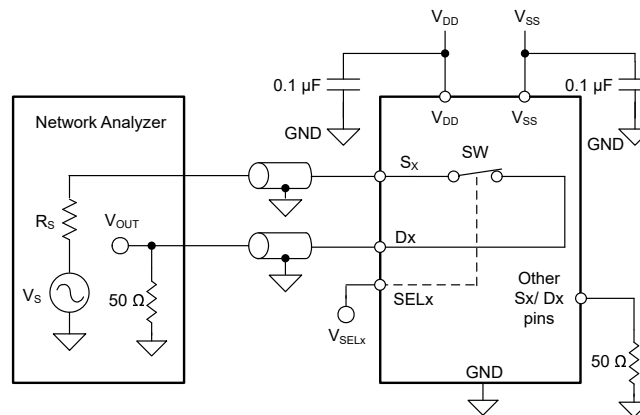

图 8-8. Bandwidth Measurement Setup
Bandwidth (BW) is defined as the range of frequencies that are attenuated by  $< 3\ \text{dB}$  when the input is applied to the source pin ( $S_x$ ) of an on-channel, and the output is measured at the drain pin ( $D_x$ ). 图 8-8 and 方程式 3 shows the setup used to measure bandwidth of the switch.